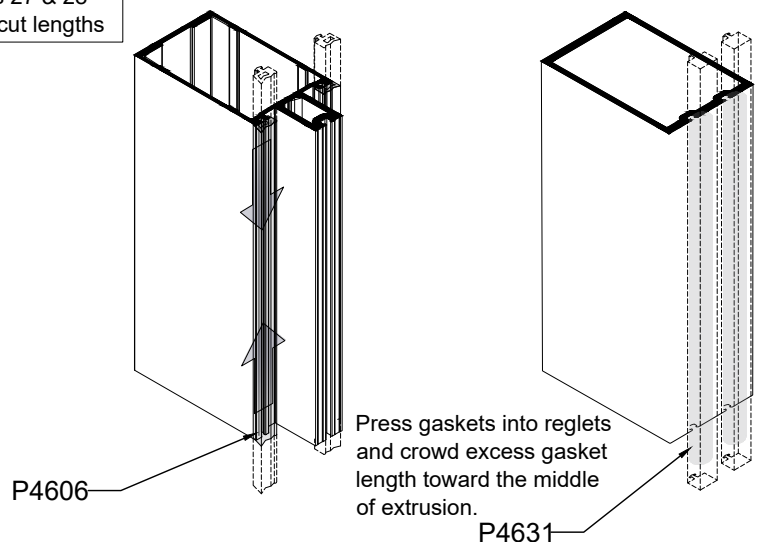

Fig. 47.2
- B. Install P4606 or P4631 gasket into vertical mullions. See **Fig. 47.2**. Vertical mullion gaskets run beyond the horizontals. Run the vertical gasket through the vertical splice joint, setting in fresh sealant at the splice. Notch darts off the gasket as required for proper fit.